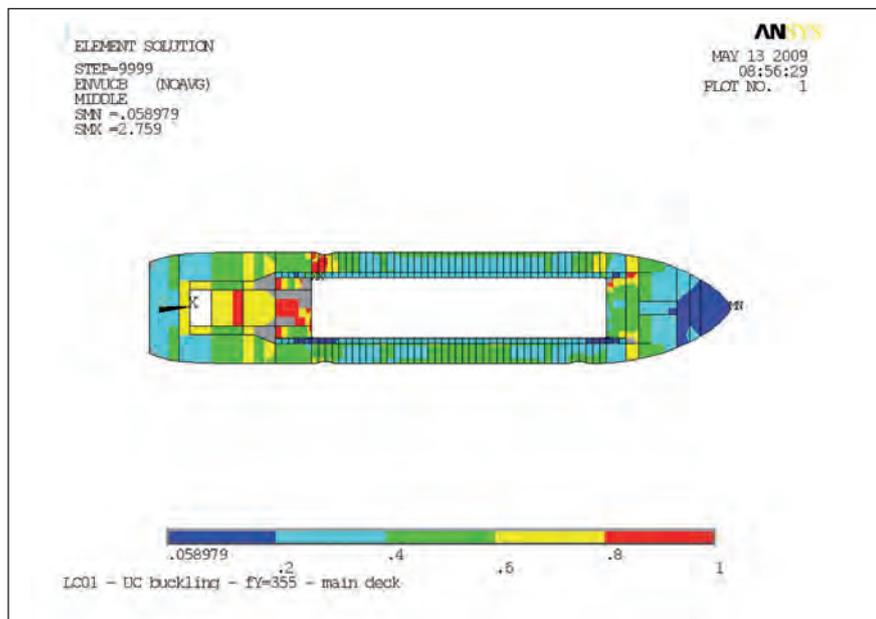

Figure 6 UC on buckling envelope for the upper deck.
processing phase, plots are generated showing Unity Checks (UC) on yield and (plate) buckling, enveloping all load cases. Figure 6 shows a UC on buckling envelope for the upper deck.